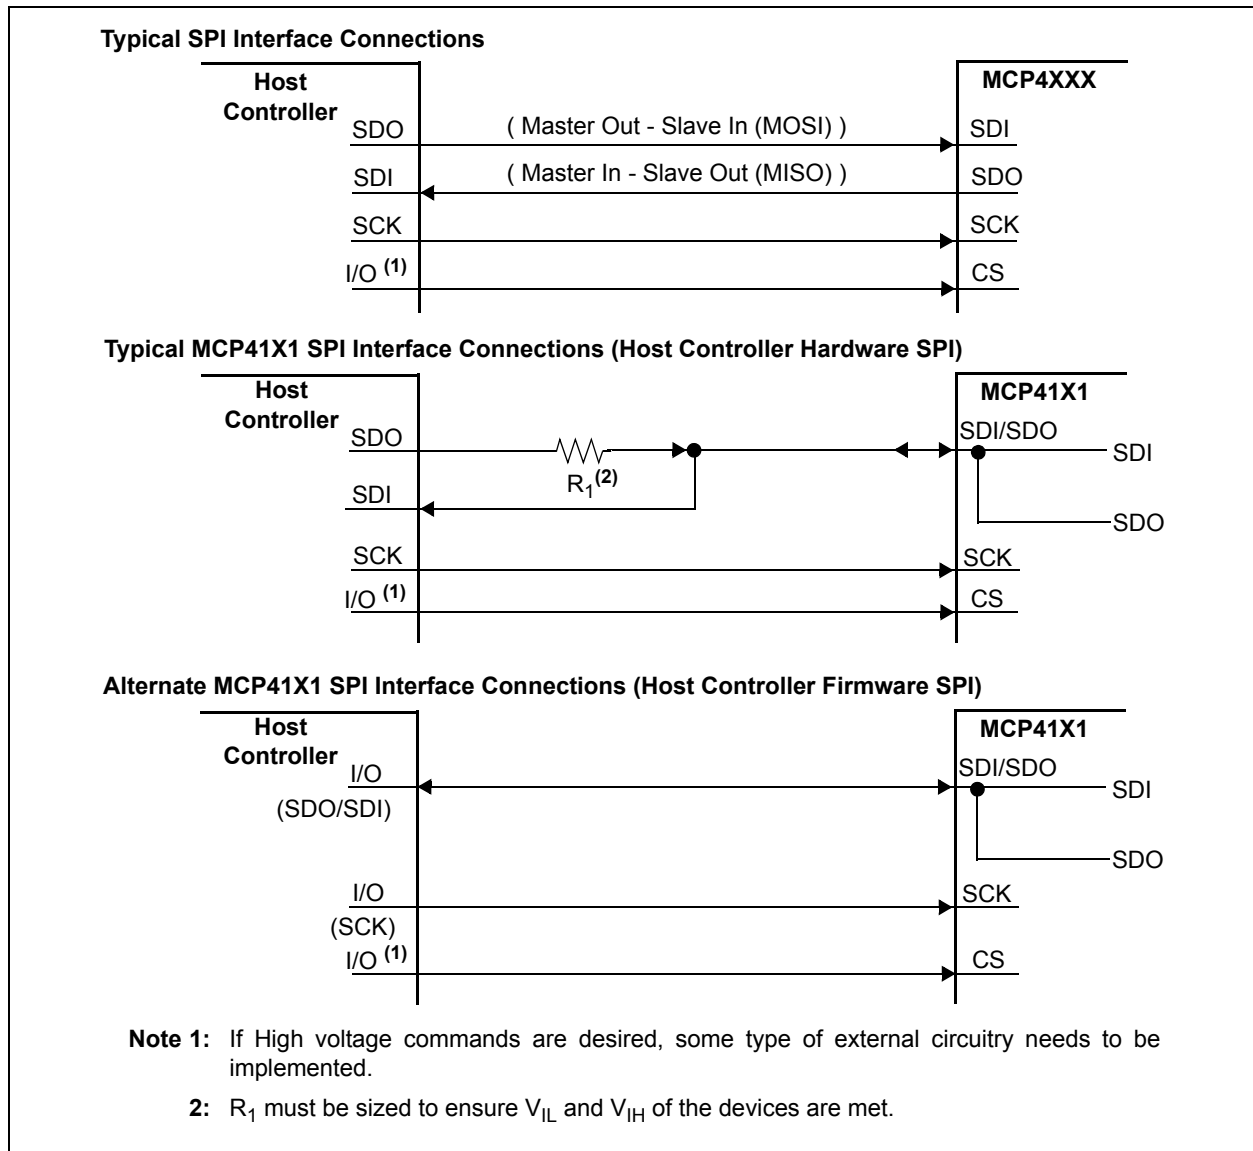

FIGURE 6-1: Typical SPI Interface Block Diagram.
Typical SPI Interfaces are shown in Figure 6-1. In the SPI interface, The Master's Output pin is connected to the Slave's Input pin and the Master's Input pin is connected to the Slave's Output pin.
**Note:** Care must be take to ensure that a Drive conflict does not exist between the Host Controllers SDO pin (or software SDI/SDO pin) and the MCP41x1 SDI/SDO pin (see Figure 6-1).